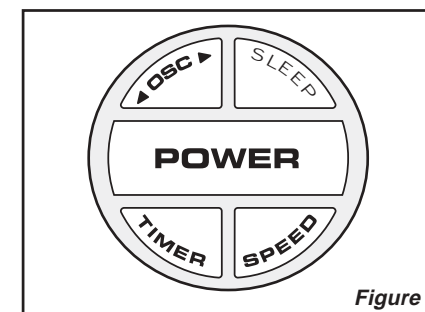
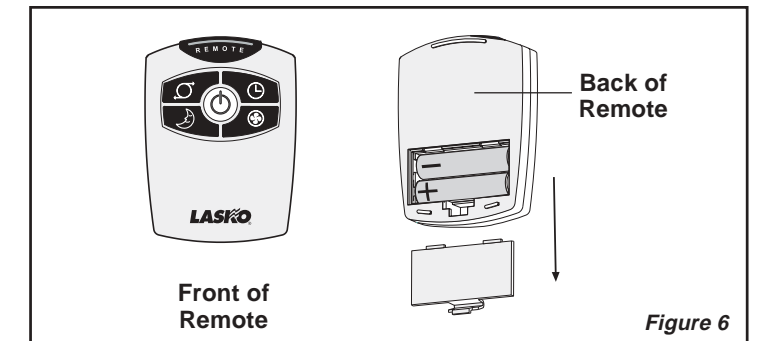

Figure 5
Figure 6
This Fan may be operated by the Manual Controls located on top of the unit (as shown in **Figure 5**) or by the Remote Control (shown in **Figure 6**).
1. Install the two "AAA" batteries supplied as shown in **Figure 6**.